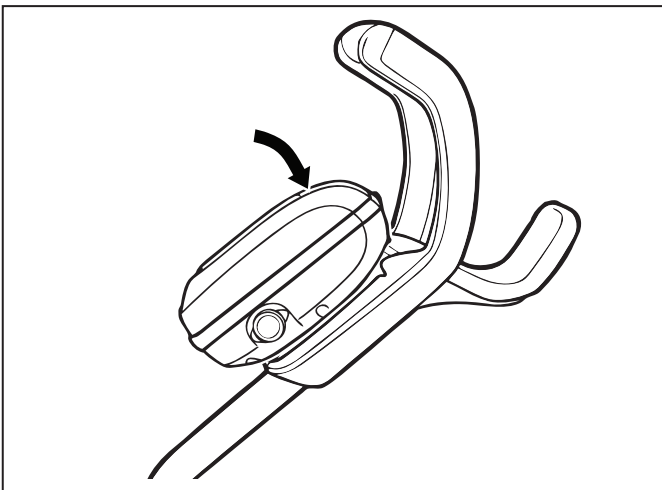

Figure 11. Attach the Control box onto Caddy
2. Press control box onto the caddy hook until it snaps and locks into position (Figure 11).